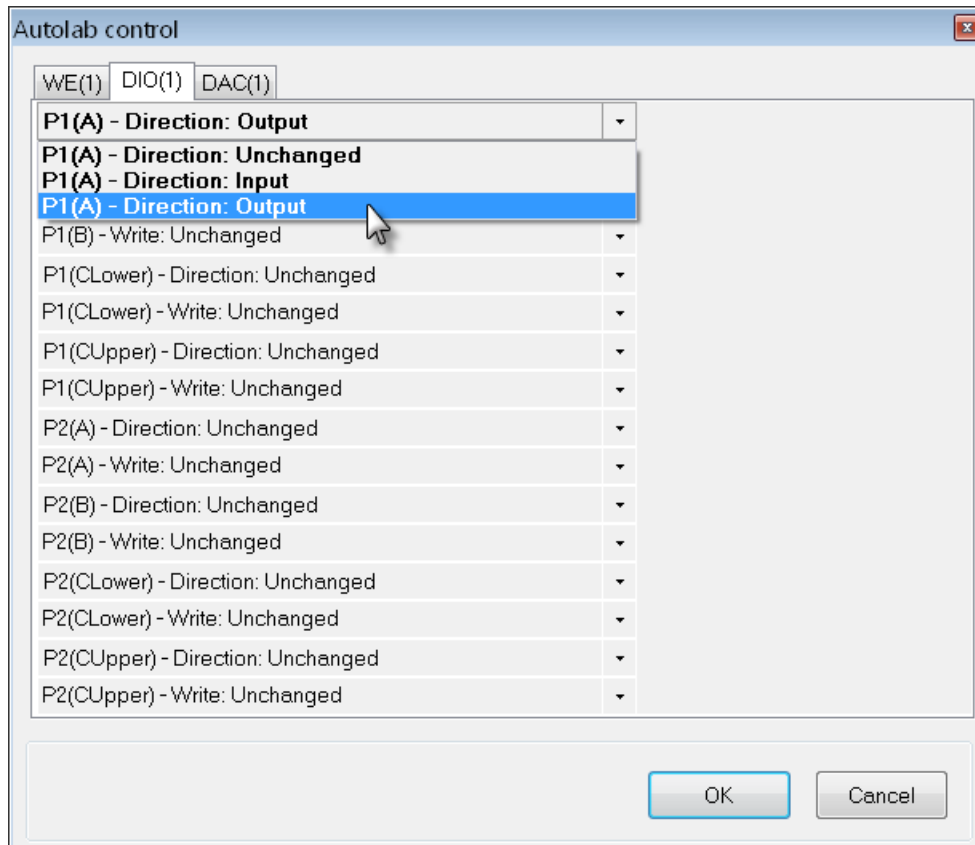

Figure 33 – Initialization of the port is done in the Autolab control window
Initialization of a port is performed in the Autolab control window, on the DIO(1) tab (see Figure 33).